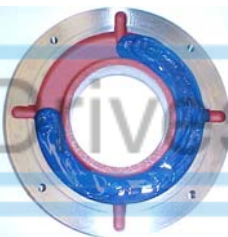

Figure 7.5: Outer bearing cap
- Fill up to $\frac{3}{4}$ of the inner and outer bearing cap deposits with the recommended grease (Figure 7.5) and lubricate the rolling bearing with enough grease before assembling it;